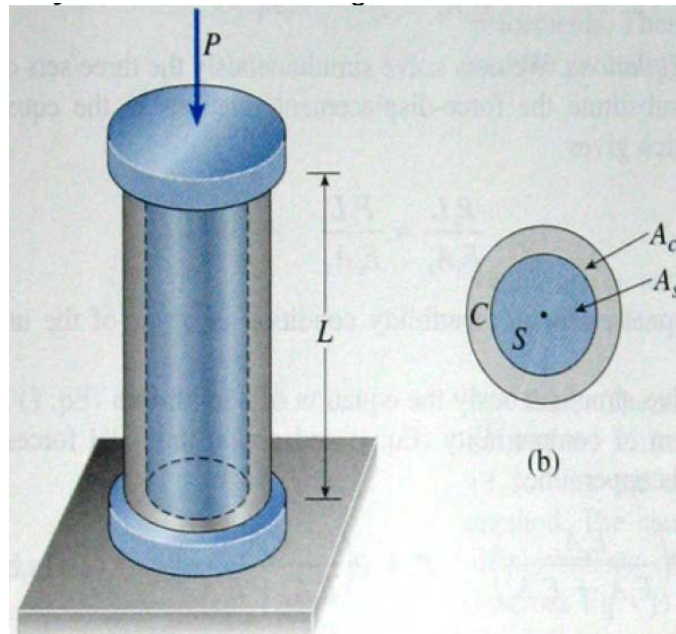

Figure Q1.1
- (a) A solid steel cylinder S is encased in a hollow circular copper tube C as shown on Figure Q1.1. They are compressed by force P . The steel cylinder has cross-sectional area A_s and modulus of elasticity E_s . The copper tube has area A_c and modulus E_c . Both parts have length L . Determine the following quantities for the structure: